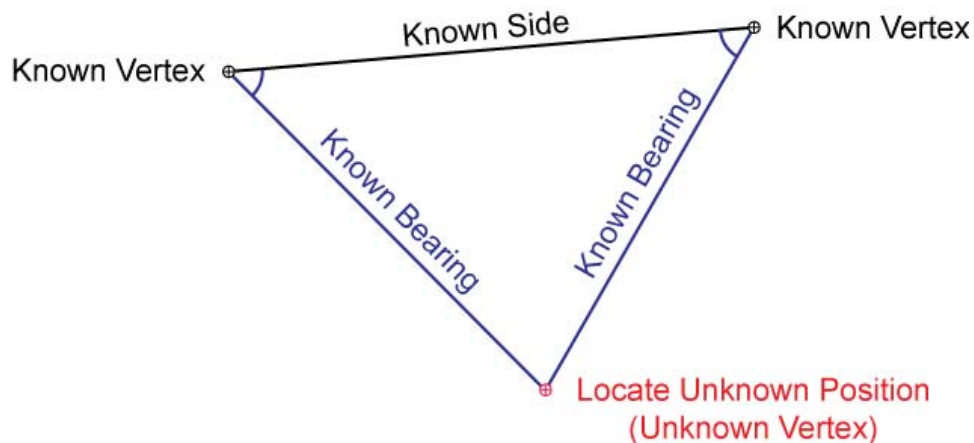

Figure 10: Locating an Unknown Position by Triangulation
- Triangulation is based on finding an unknown location using angle measurements to two known locations. Mathematically, the two known positions define the two vertices (and length of the one side) of a triangle and the two bearing measurements define two of the angles of the triangle. These three things fix the size and orientation of the triangle; thus putting the unknown position at the third vertex of the triangle (Figure 10).